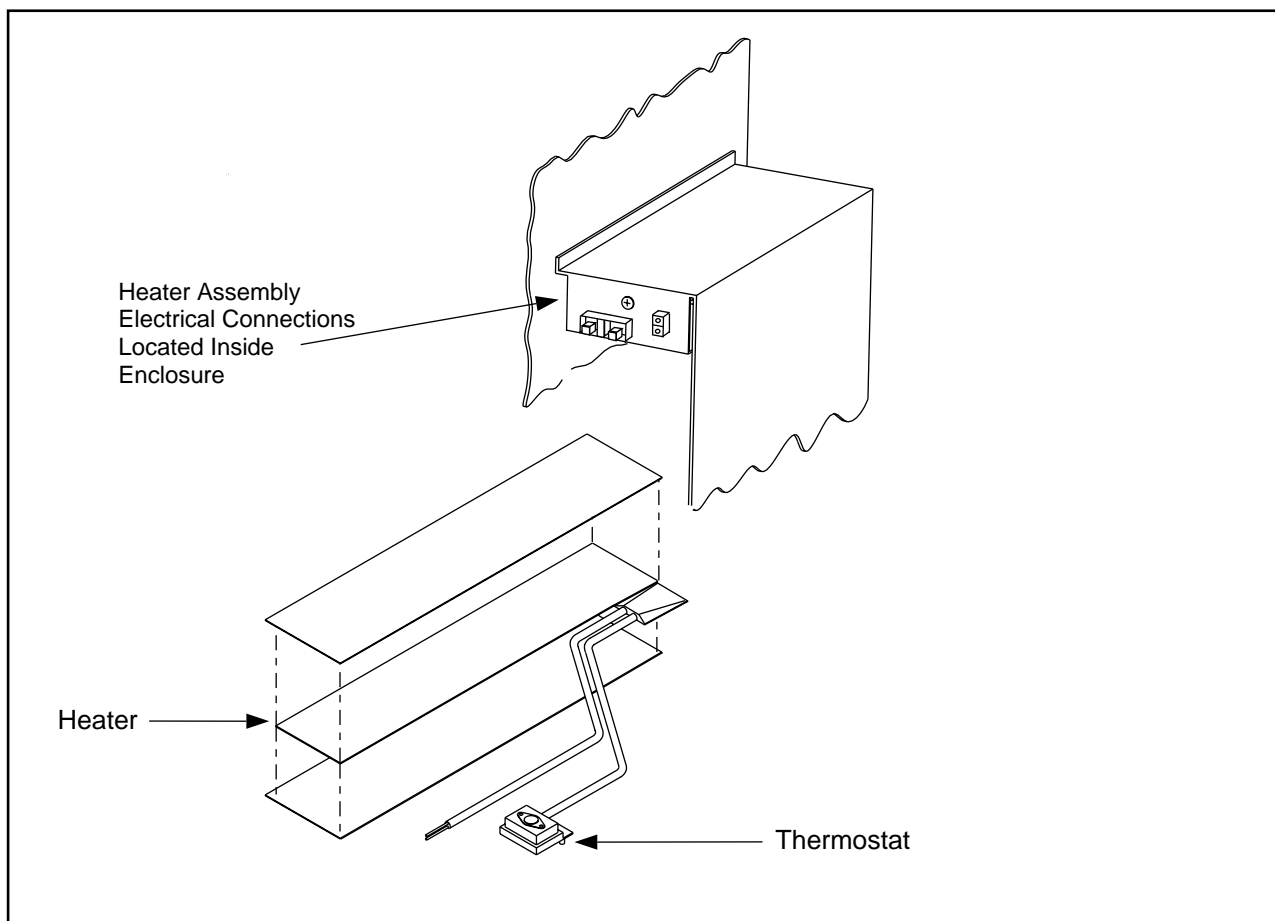

Figure 5-24. Battery Heater Assembly
7. Disconnect the Failed Battery Sensor connector. See Figure 5-24 on page 5-47.
6. Disconnect the Failed Battery Sensor connector. Refer to Figure 5-24 on page 5-47.
17. Install the batteries into the battery tray as illustrated in Figure 5-24 on page 5-47. Place the hold-down bracket on the batteries.